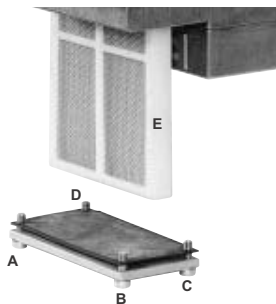

Fig. 33
- 2 Remove screws 1 ÷ 6 (Fig. 33).